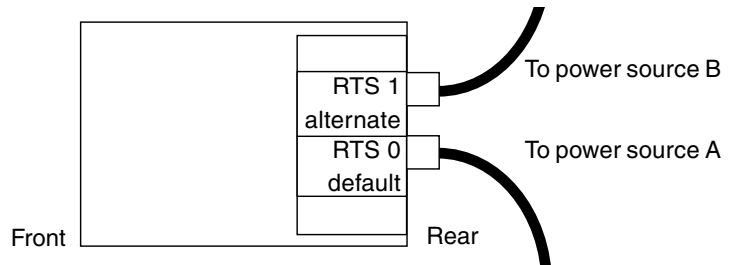

FIGURE A-8 One RTU Assembly and Two Independent AC Power Sources
- In configurations with one RTU assembly and two independent AC power sources there will be two cables to connect, both in the rear of the system (FIGURE A-8).